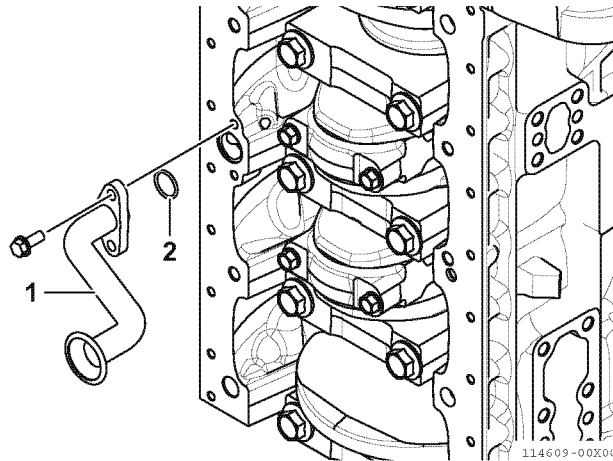

Fig.03-9
1. Attach the lubricating oil suction pipe (1, Fig.03-9). Replace the O-ring with a new one (2, Fig.03-9).